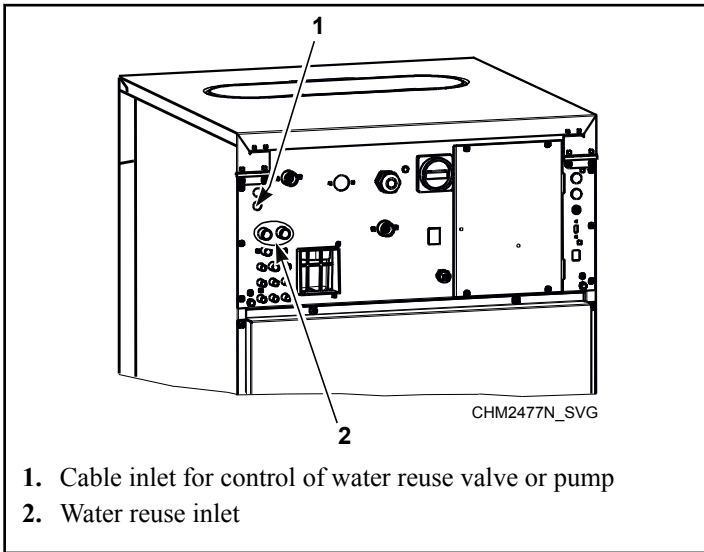

Figure 22
1. Drill out the protective screens of the water reuse inlet using a drill bit of 0.59 in. [15 mm] diameter. Refer to *Figure 22*.
3. Fit a cable bushing into the opening, and pull the cable through the bushing. Refer to *Figure 22*.